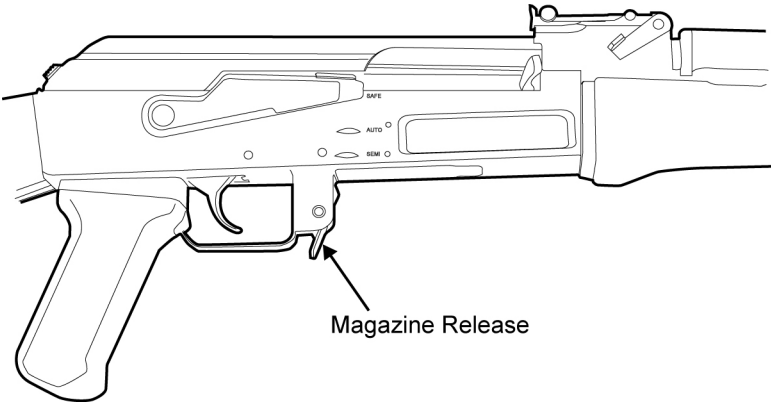

Figure 1. Magazine Release.
b. Magazine release is dirty, corroded, or has no spring tension. Refer to Figure 1.	Clean the magazine release. Attempt to repair the magazine release or replace the weapon.